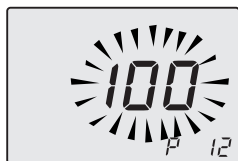

Fig. 7.44
• Scroll the various parameters using keys 15 or 16 until the letters **P12** are displayed on the LCD display and the value of the parameter (100=Inovia 16S and Inovia 25S), indicating that "parameter 12" (Fig. 7.44) has been activated.